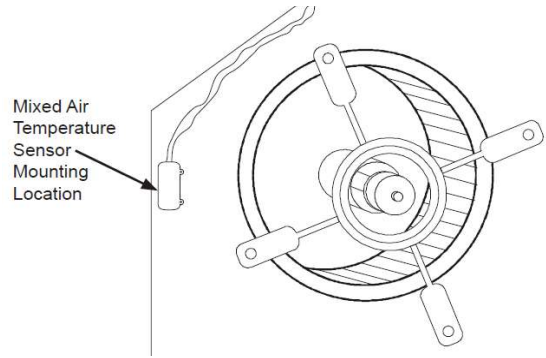

Fig. 3 - Typical MAT (SAT) Centrifugal Blower Location. If Probe or Eyelet Style Sensor, Install in Same Location
5. In the Blower Compartment install the supplied Mixed Air (MAT/SAT) Sensor to the blower housing or Blower Deck - See **Fig. 3 & 4**.